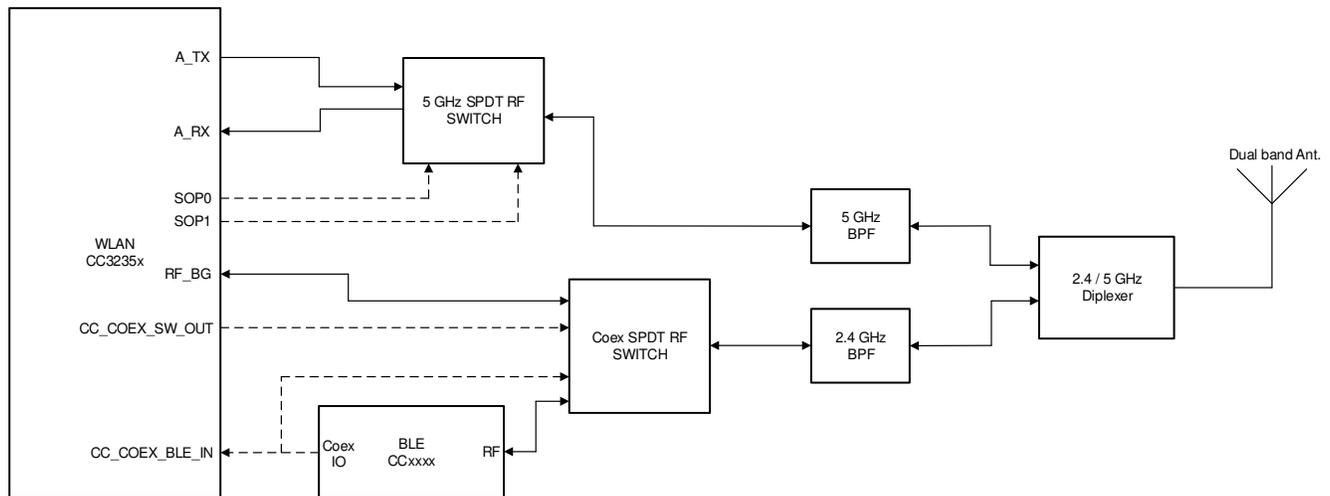

Figure 9-2. Single Antenna Coexistence Solution with 5GHz Wi-Fi
- 5GHz Wi-Fi band (see Figure 9-2)
Figure 9-2 shows the single antenna implementation of a complete Bluetooth[®] low energy and WLAN coexistence network with the WLAN operating on either a 2.4- or a 5GHz band. The SOP lines control the 5GHz switch. The Coex switch is controlled by a GPIO signal from the BLE device and a GPIO signal from the CC3235x device.